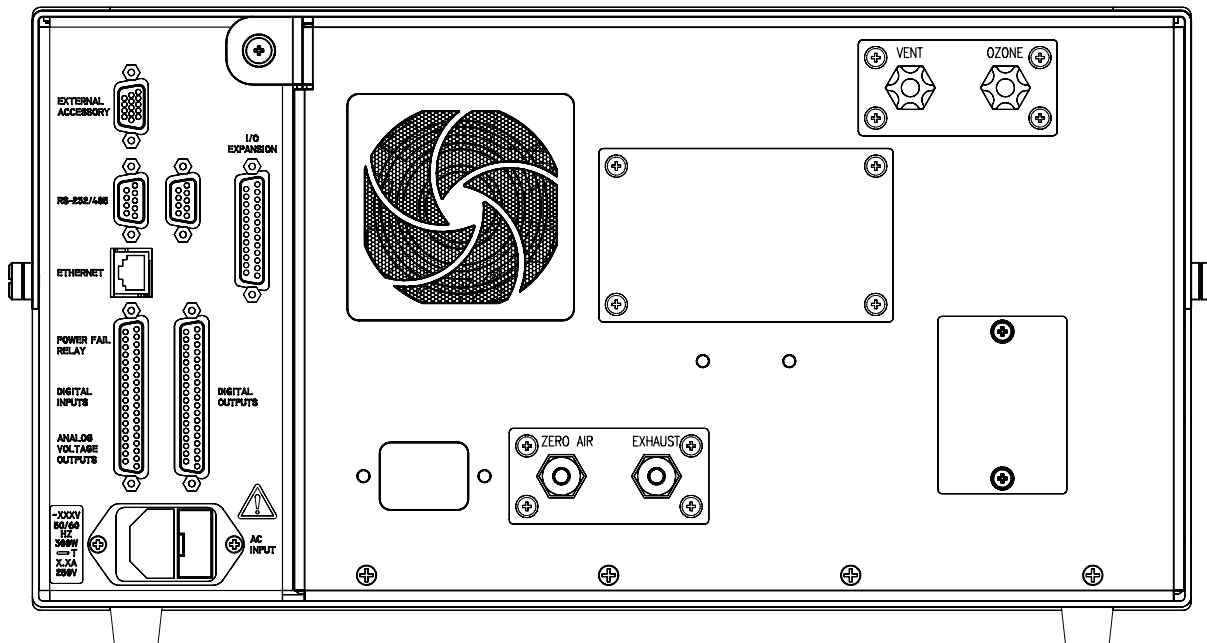

Figure 2-3. Model 49i Primary Standard Rear Panel
1. Connect the zero air supply to the ZERO AIR bulkhead on the rear panel (Figure 2-3). All tubing should be constructed of FEP Teflon®, 316 stainless steel, borosilicate glass, or similar tubing with an OD of 1/4-inch and a minimum ID of 1/8-inch. The length of the tubing should be less than 10 feet.